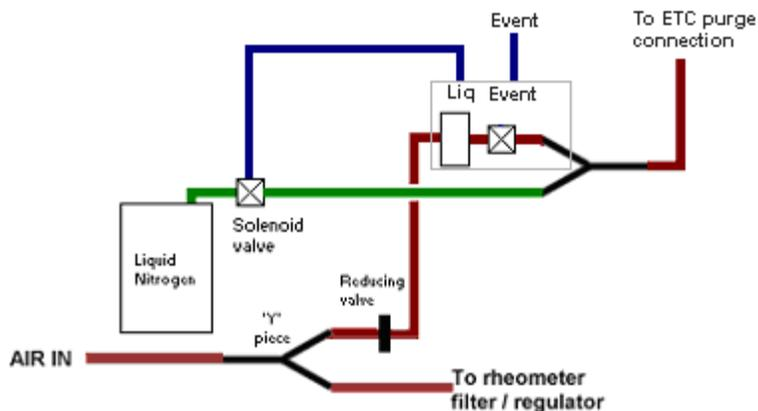
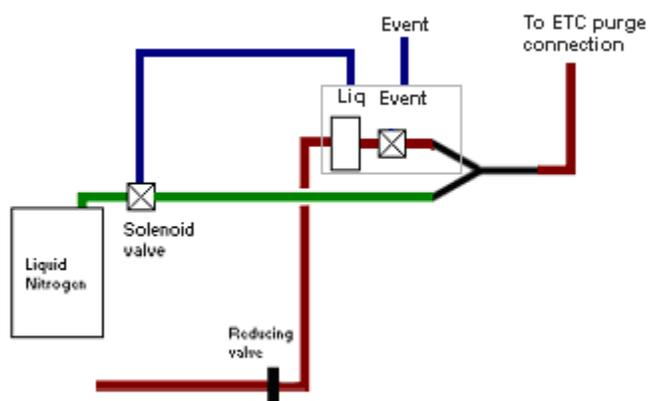

Figure 5.24
Figure 5.25
Follow the installation procedure in the previous section up to step 15. Then use the following additional steps to complete the installation (see Figure 5.24 and Figure 5.25).
4. Connect a gas feed to the 'Gas in' connector on the flow control assembly. If you have a supply of nitrogen gas follow Figure 5.25, otherwise follow Figure 5.24.